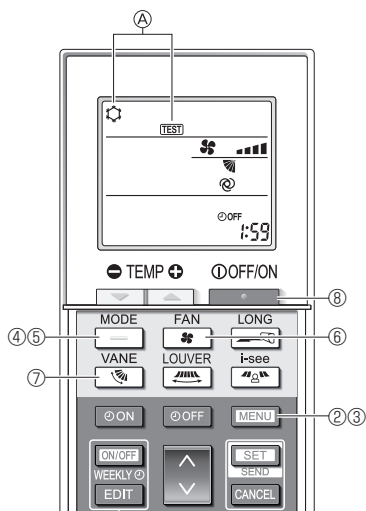

Fig. 7-8
- ① Turn on the power to the unit at least 12 hours before the test run.
- ② Press the  button for 5 seconds. (Fig. 7-8)
A [TEST] and the current operation mode are displayed. (Fig. 7-8)